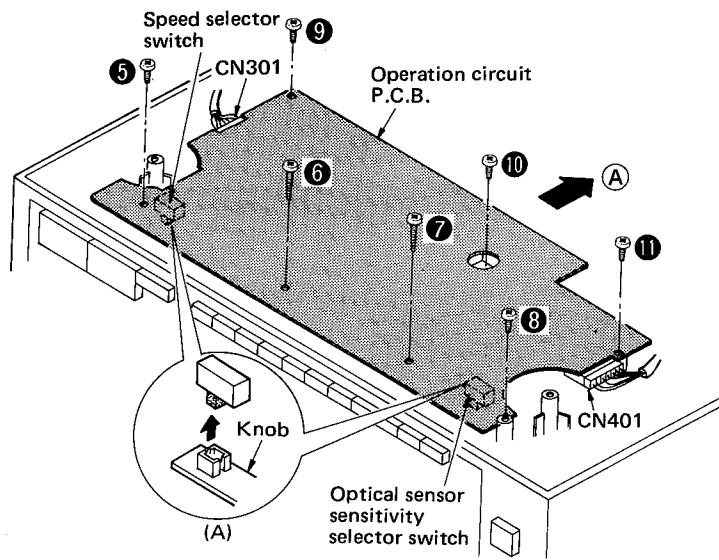

Fig. 3
2. Remove the 7 setscrews (Fig. 3 : ⑤ ~ ⑪) of the printed circuit board.
3. Remove the optical sensor sensitivity selector switch and speed selector switch from the knob. (Fig. 3-A )